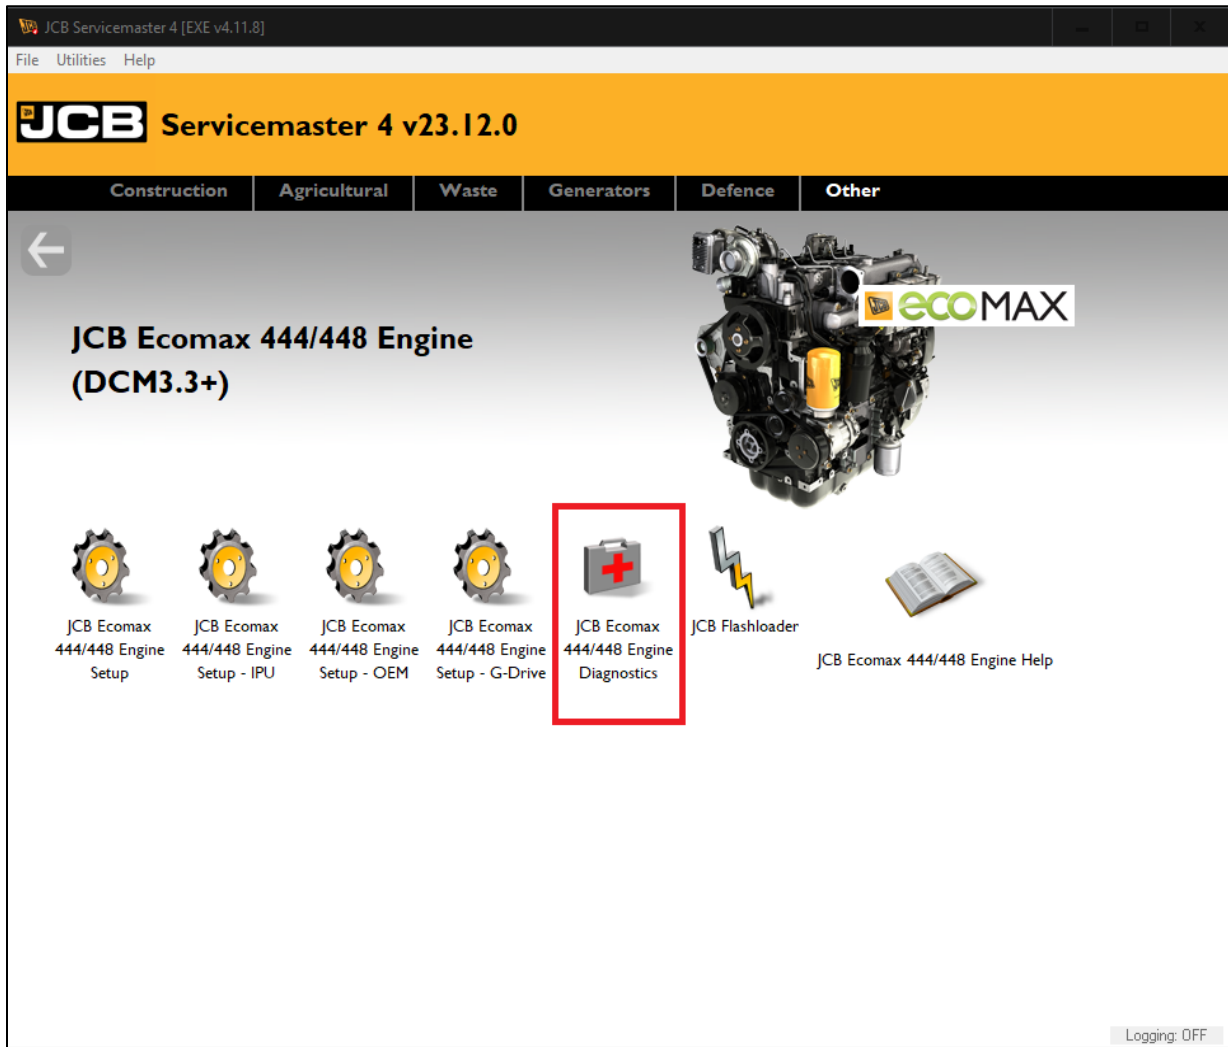

Figure 8
- Open the JCB EcoMax Engine Diagnostics tool once connected to the machine and having the machine 'Keyed On'. See figure 8.